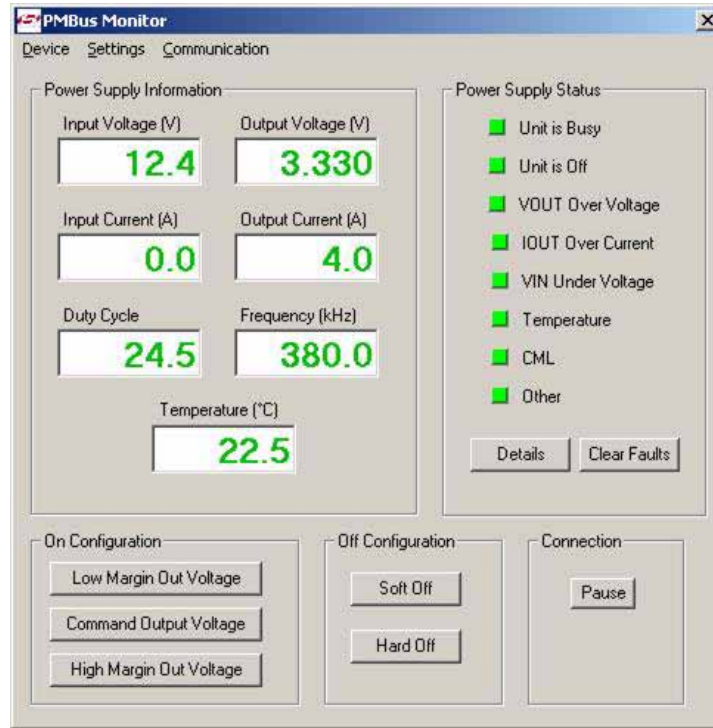

Figure 5. View of the PMBus Monitor
- Run the PMBus Monitor application by selecting **Options**→**Launch PMBus Monitor Tool** from the Application Builder. The window shown in Figure 5 will appear. The PMBus Monitor can be used to control and configure the target board. The target can be enabled/disabled through the monitor. The PMBus Monitor allows parameters, such as fault thresholds, to be changed. It also reports operating conditions and problems.